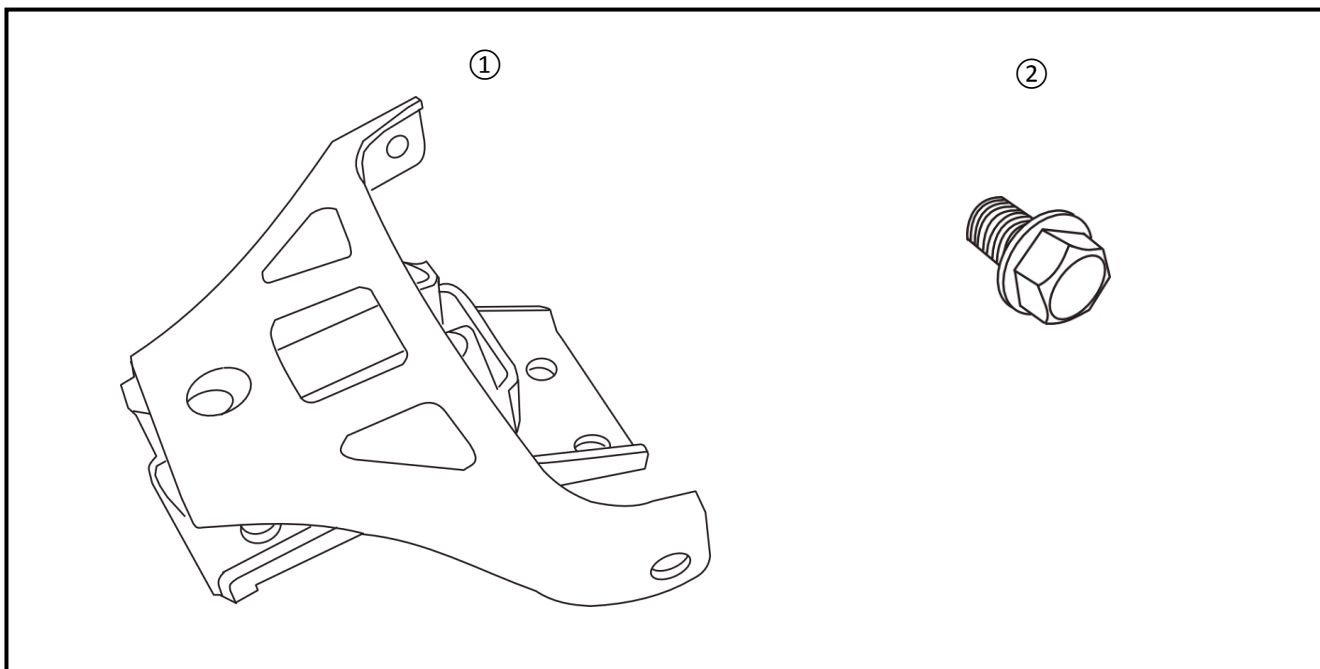
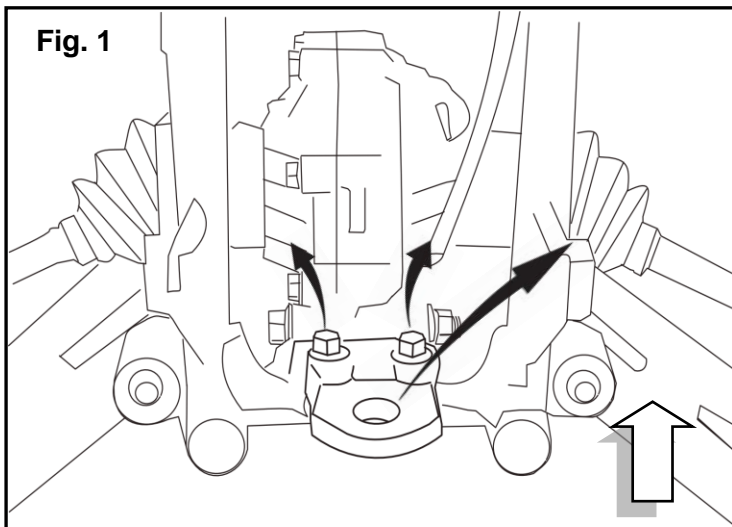

Fig. 1
Fig. 2
1. Working from the center rear of the vehicle, remove the two bolts securing the stock hitch tongue. None of these parts are reused for this installation. (Fig. 1)
2. Install the Rear Receiver hitch ①. Install 2 Flange Bolts ② through the mount holes in the Receiver hitch and into the center mount holes. *These are the same holes you removed the bolts from in step 1.
3. Install 2 Flange Bolts ② through the side mount holes and into the threaded mount holes (Fig. 2).